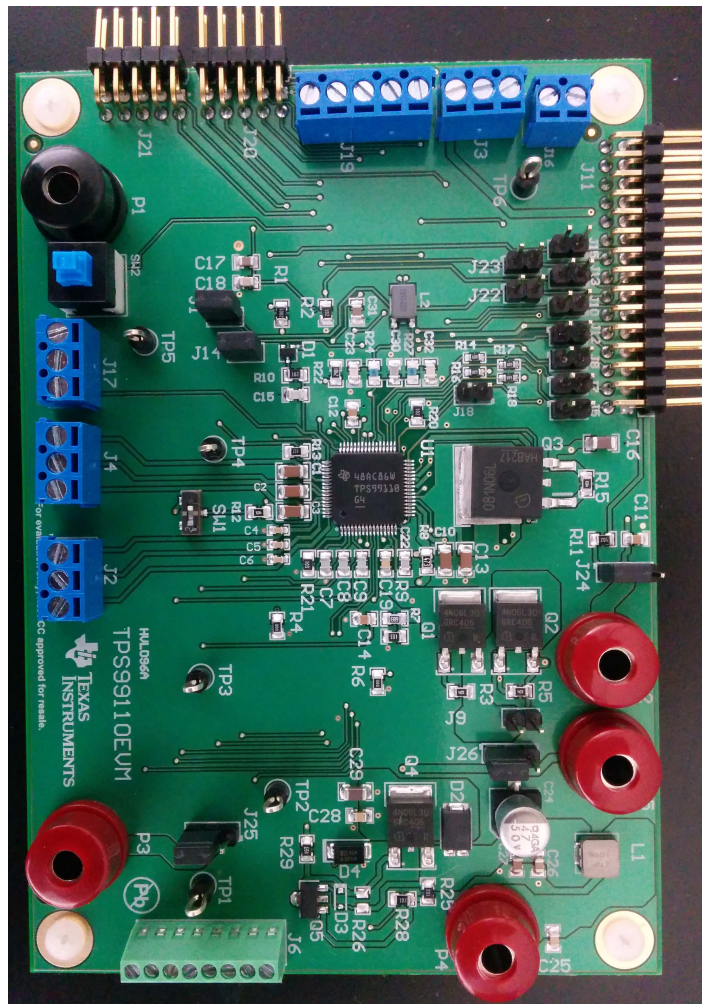

Figure 1. TPS99110EVM Board
The TPS99110EVM is used to evaluate the TPS99110-Q1 device. The EVM board already includes a TPS99110-Q1 device which eliminates the need for immediate soldering. Refer to the TPS9110-Q1 datasheet and Section 4 for more detail on the application configuration. The following function blocks are accessible on the EVM hardware and are highlighted in Figure 1.
- Step 3. Position SW1 in the correct location if it is not already in the correct position. To ensure that SW1 is positioned correctly, verify that it is switched to the 1-2 position (as shown in Figure 1).